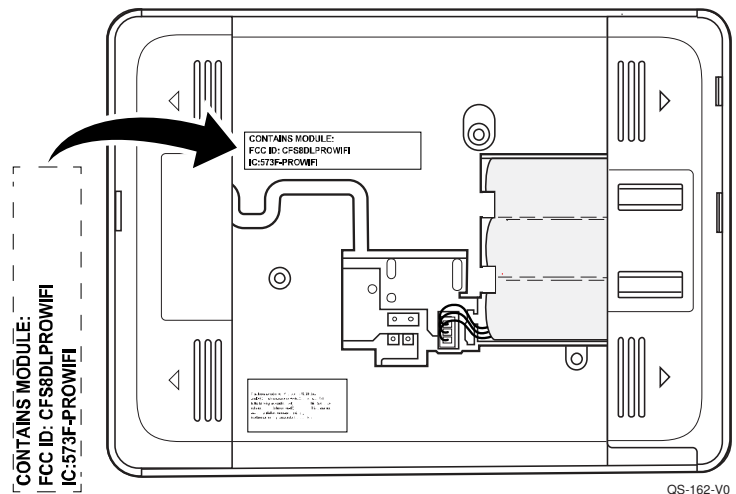

Figure 1. FCC/IC Label Location
1. Affix the provided FCC/IC label (P/N R800-26437A for the PROWIFI) on the control's case back (refer to Figure 1).